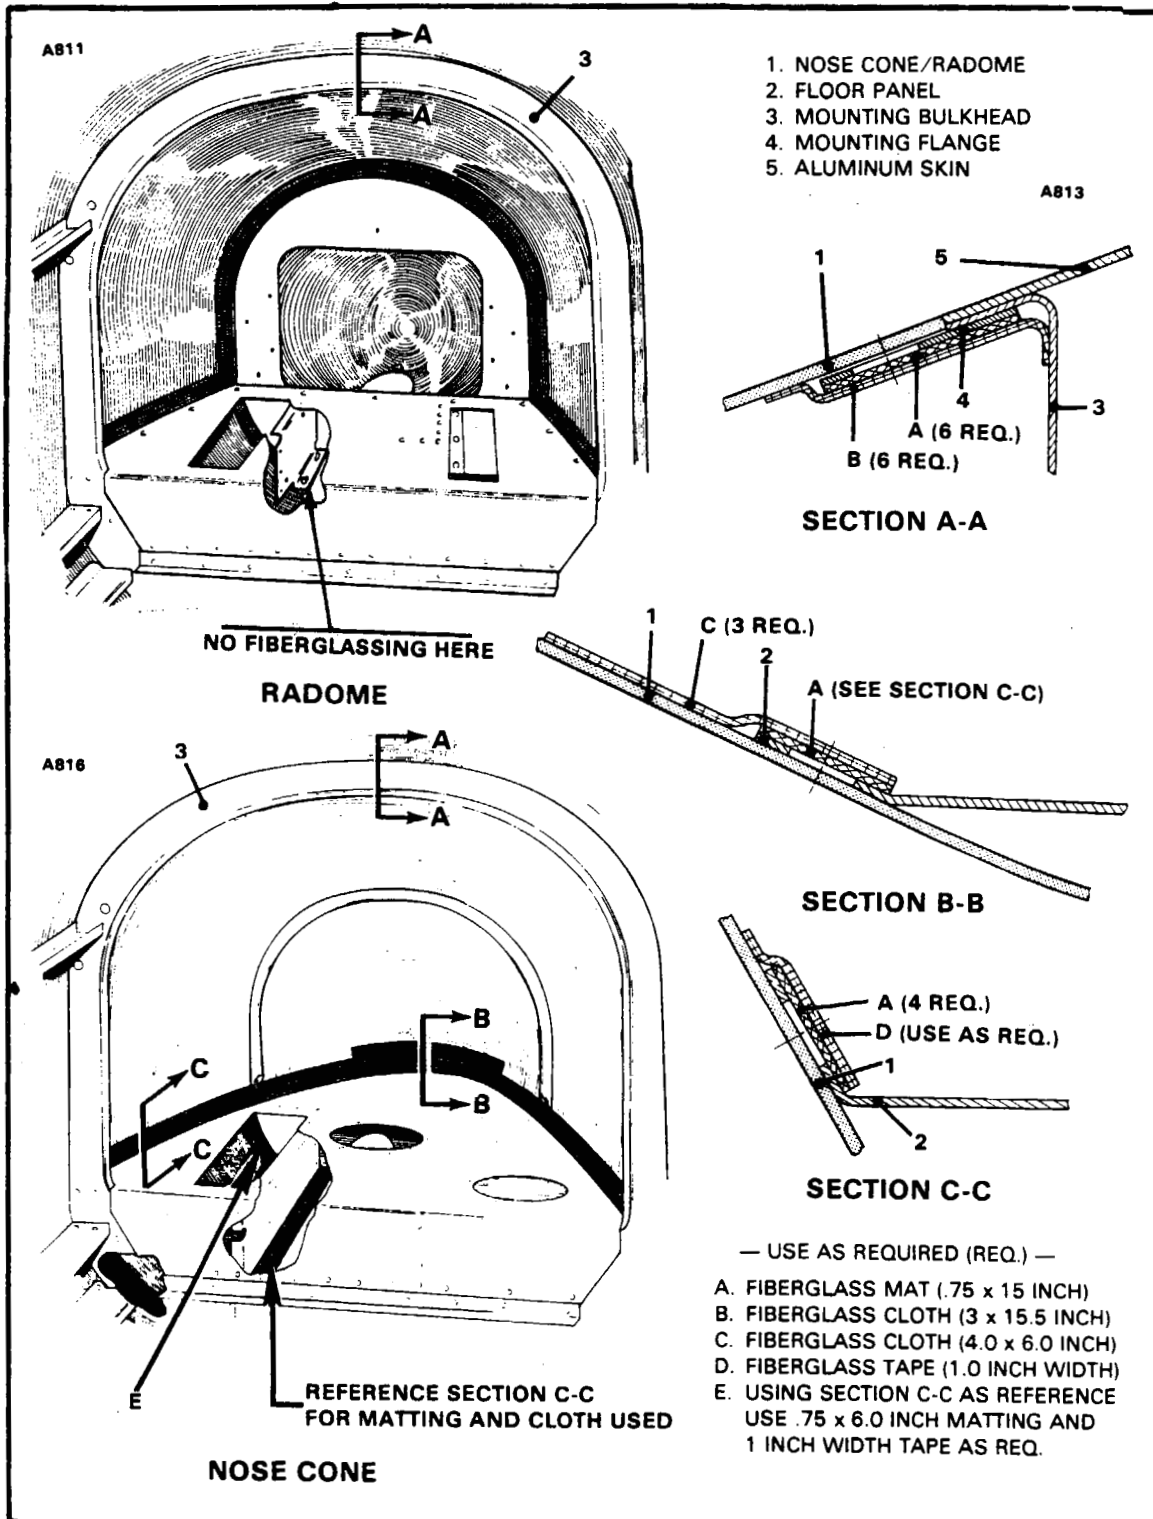

Figure 4-25. Nose Cone/Radome
k. Prepare and apply to the specific areas the proper fiberglass cloth in the same manner as the matting shown in Figures 4-25 and 4-26.
Do not fiberglass the light supports on the bottom of the RADOME. (See Figure 4-25.)